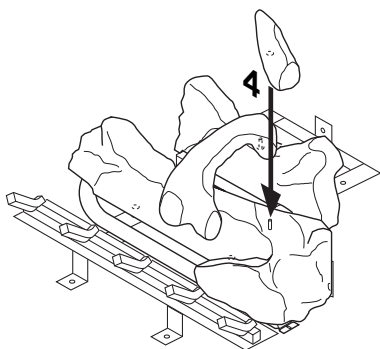

Figure 48 - Installing Log No. 4
4. Place log #4 (right log) on pin on right side of front log as shown in Figure 48, page 26.